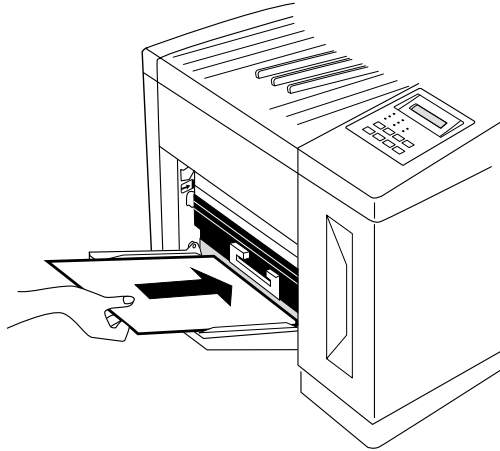

Fig. 5.3 *Insert a Single Sheet*
6. Insert a single sheet of media, printing side up, with the top edge leading into the printer, in the manual feed tray (fig. 5.3) until it reaches the rear of the tray inside the printer and lies flat.